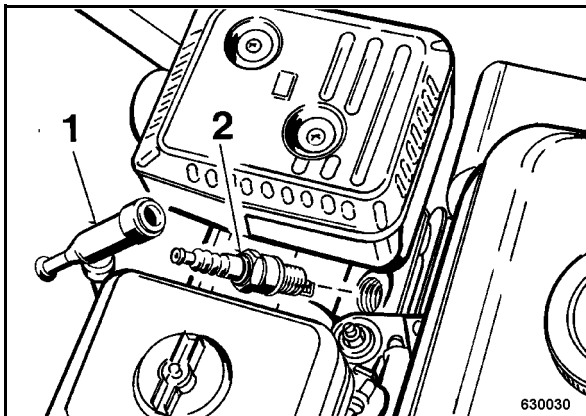

Fig. 40
- Pull off the spark plug socket (1) (Fig. 40) and unscrew the spark plug (2).